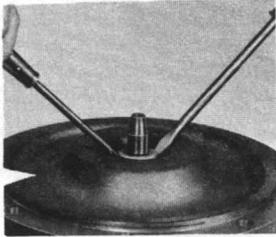

FIGURE 3
4. Remove carbon assembly and ceramic seal by prying them loose with a screwdriver. (see Figure 3)